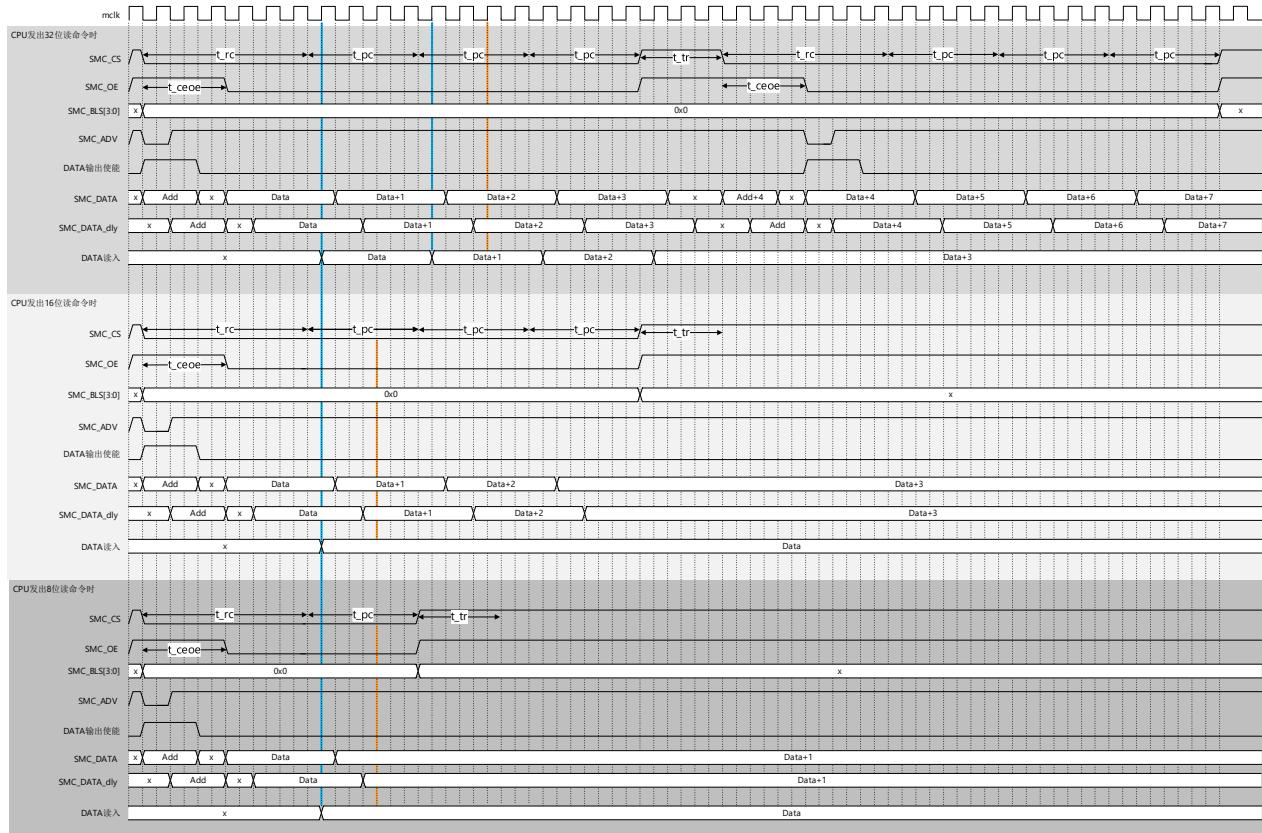

Figure 40-19 Basic Timing Of Address Data Multiplexing Burst Read Action (synchronous/asynchronous mode (RSYN=1/0) &16 bit width (MW=01) &RBL=001)
- e) Table 40-11 and Figure 40-19~Figure 40-22 is the basic timing chart and setting example of burst read operation.